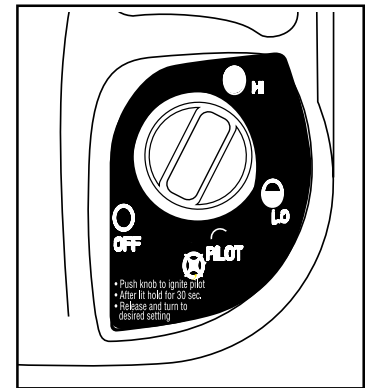

Figure 1: Off position.
- Make sure four-position Control Knob is in "OFF" position; see Figure 1.
- Make sure four-position Control Knob is in "OFF" position; see Figure 1, at left.